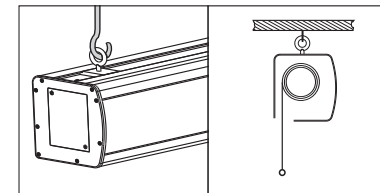

Figure 2
2. Hang the screen on the hook, check if the hang is safe enough, make sure the screen will not drop down from the hooks ( Figure 2 ).